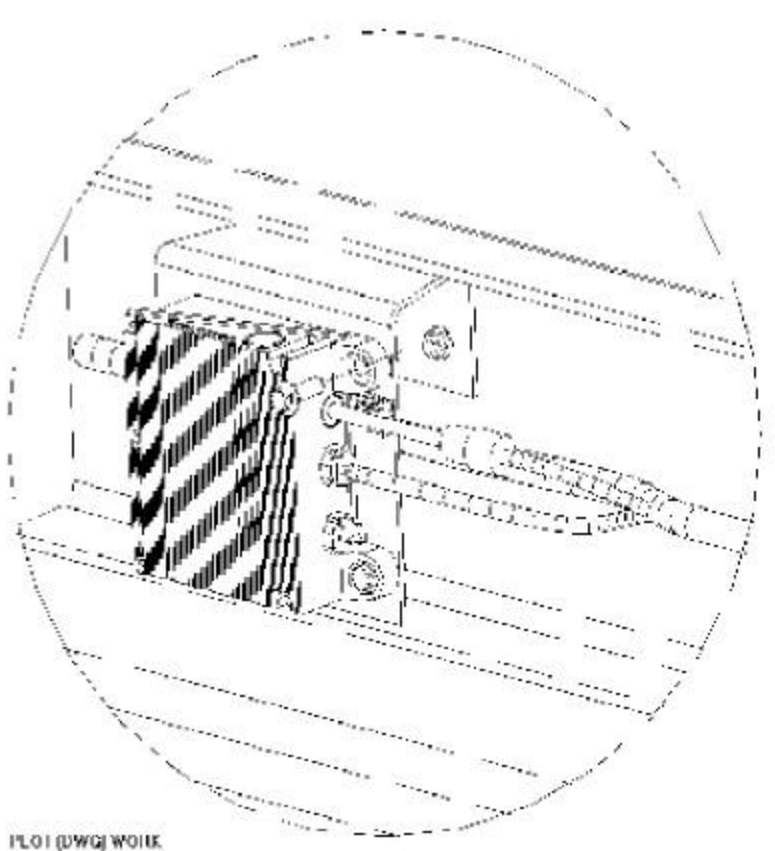
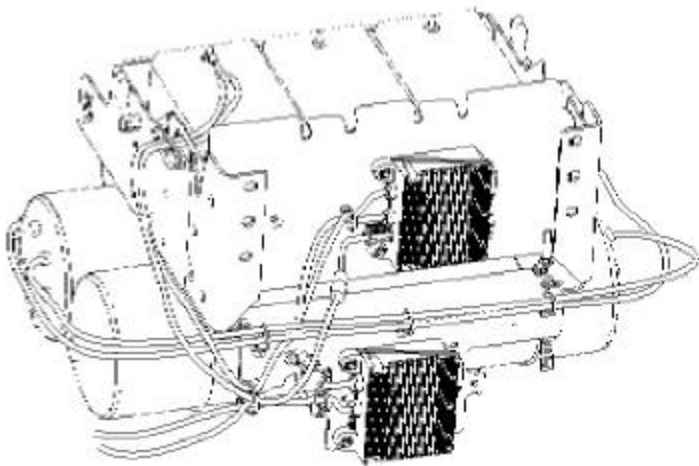

Figure 1 Frame Mounted RPM, Vehicles Ordered With 08WSK
Figure 2 Battery Box mounted RPM's
The vehicles involved in this recall may have one, two or three remote power modules. See the PART INFORMATION section to determine how many power modules are required for the vehicle being repaired. Remote power modules on vehicles in this campaign can be mounted in two locations (see Figure 1 for frame mounted and Figure 2 for battery box mounted).
6. **For frame mounted RPM's (see Figure 1):** Disconnect the electrical connectors to the RPM and remove the RPM from the mounting bracket.
7. **For battery box mounted RPM's (see Figure 2):** If there are two RPM's on the battery box, disconnect the electrical connectors to the lower RPM first and remove the lower RPM. To gain access to the upper RPM on the battery box, remove the RPM mounting bracket by removing the four bolts holding the bracket to the battery box frame. For the modules mounted directly behind the batteries, remove the batteries as required to access the RPM mounting bolts and remove the RPM.